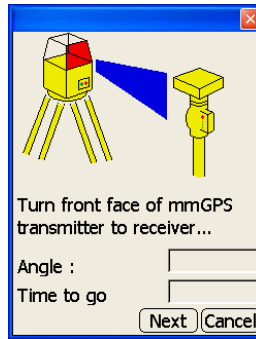

Figure 7-21. Begin Adjustment
6. If needed, adjust the height of the sensor so the angle is less than 1°. Once the angle is ok, tap **Next** (Figure 7-21).
7. Press **Next** to begin the first phase of the adjustment (Figure 7-21).